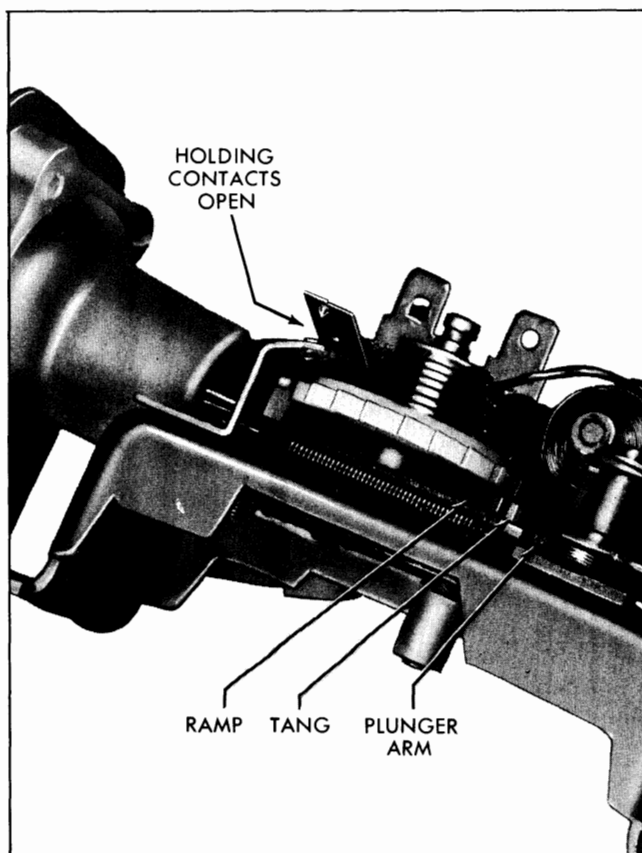
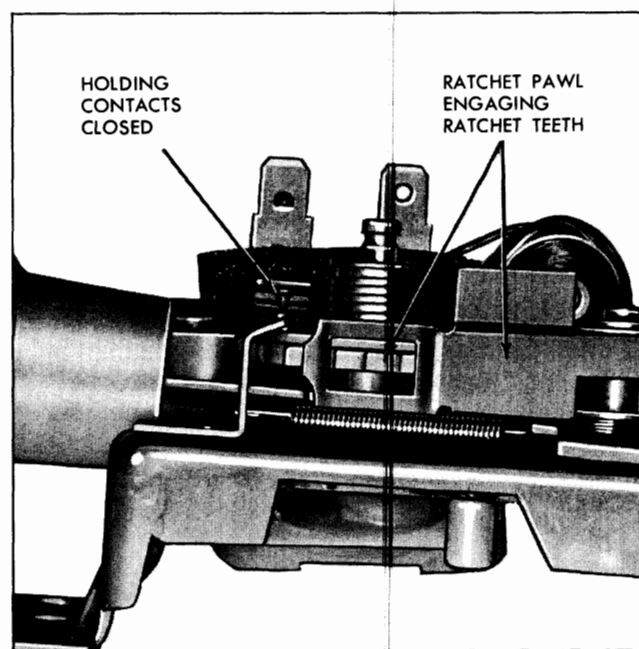

Fig. 11-88 Washer Pump Assembly
Fig. 11-90 Pump Contacts and Ratchet Pawl
The pump is in the "lock-out" position when the relay holding contacts are open and a tang on the plunger arm rests against the widest part of an eccentric ramp located on the lower surface of the ratchet wheel (Fig. 11-88). The tang holds the bellows plunger arm in a retracted position (bellows spring compressed) allowing the plunger arm actuator pin
With the washer relay coil energized, the ratchet pawl, which is normally held away from the ratchet wheel by a spring, is pulled toward the coil pole and engages the ratchet wheel teeth. The ratchet pawl and plate assembly, which moves back and forth continuously when the wiper is on, now starts to rotate the ratchet wheel (Fig. 11-90).
As the ratchet wheel rotates the tang on the bellows plunger arm starts to ride up the eccentric ramp on the lower surface of the ratchet wheel. The full "lock-out" position of the pumping mechanism is reached when the tang is up on the widest part of the ramp (Fig. 11-88). The tang reaches the "lock-out" position at the same time the relay coil holding contacts open.
2. If relay and ratchet pawl perform correctly in Step 1, manually actuate the plate and ratchet pawl assembly to turn the ratchet wheel one tooth. Observe if relay holding contacts close (Fig. 11-90) and the pump plunger arm is released from its "lock-out" position. (Fig. 11-88 shows plunger arm in "lock-out" position.)
rotated 21 teeth, the holding contacts should be opened by a "hump" on the wheel and the pump plunger arm should be in the "lock-out" position (Fig. 11-88).